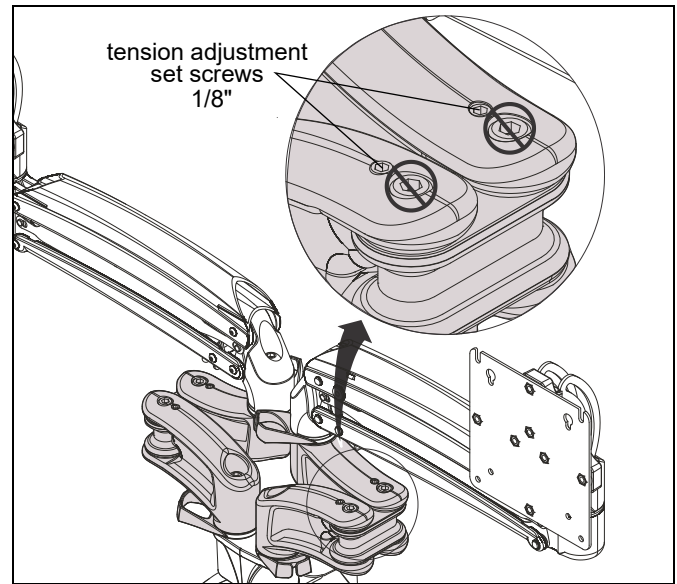
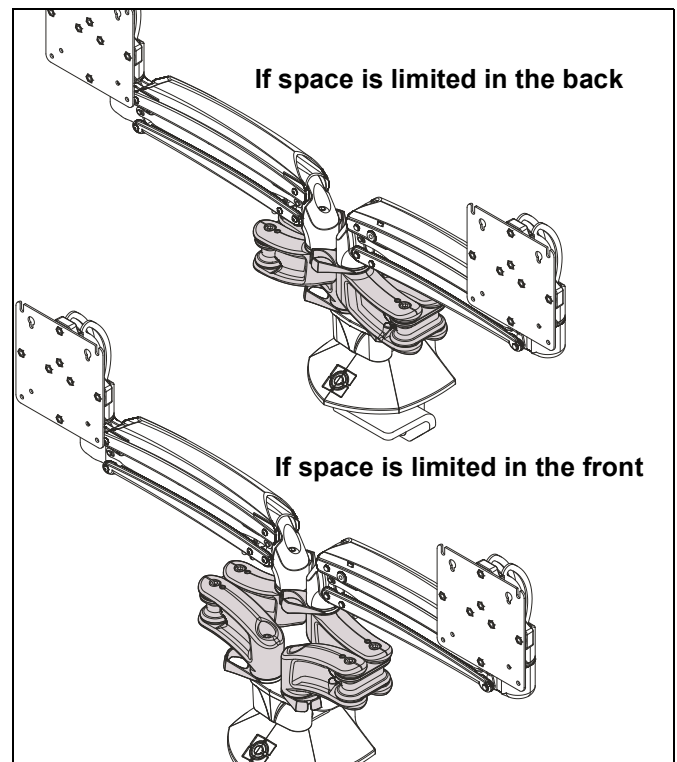

Figure 11
Figure 12
1. Adjust inside arm to achieve desired low profile depth. (See Figure 11) and (See Figure 12)
2. Use 1/8" hex key (L) to adjust low profile tension screws to change tension. (See Figure 11) and (See Figure 12)
(See Figure 11)